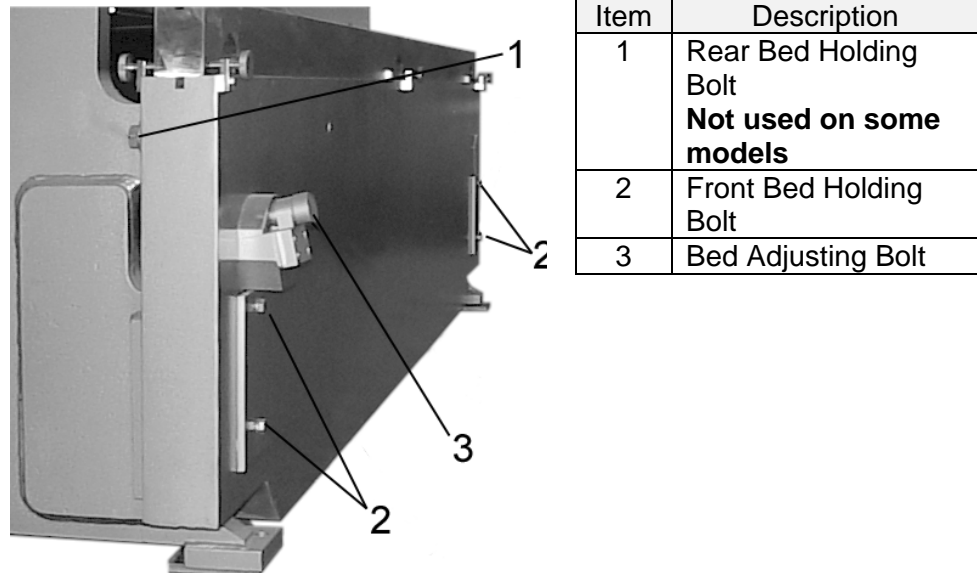

Figure 8: Bed Tilt Wedge Assembly
1. To adjust the bed, loosen the six bed holding bolts. Two are located on the rear side of the bed, one on each end of the press. The other four are located front side of the bed, two on each end of the bed. (See Figure 8 Items 1 & 2).
2. Rotate the adjusting bolt clockwise to lift the bed and counterclockwise to lower. (See Figure 8 Item 3).
3. Snug the bed holding bolts. The bed holding bolts should only be snug enough to compress the lock washers, but should not be over tightened. (See Figure 8 Item 1 & 2)